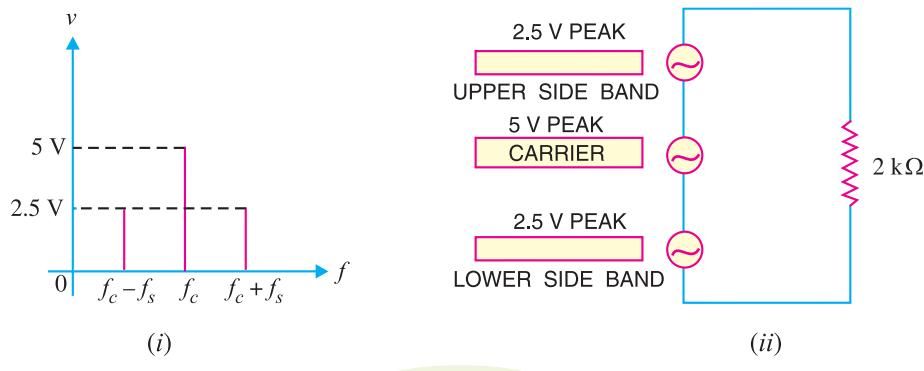

Fig. 16.11
**Solution.** Fig. 16.11 (i) shows the frequency spectrum of AM wave whereas Fig. 16.11 (ii) shows the equivalent circuit.